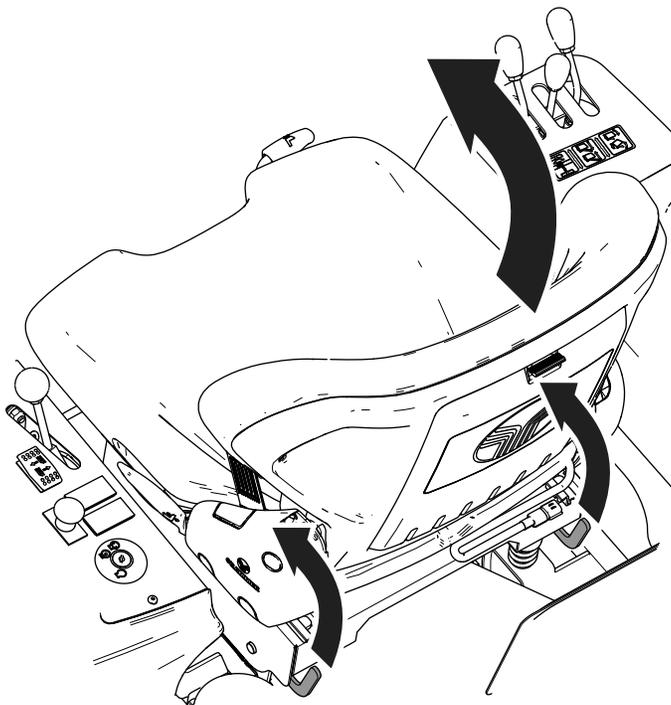

Figure 21
5. Tilt the seat forward (Figure 21).
- Tilt the seat forward (Figure 21).
Lift the seat-tilt lever (Figure 21) upward and tilt the seat forward.